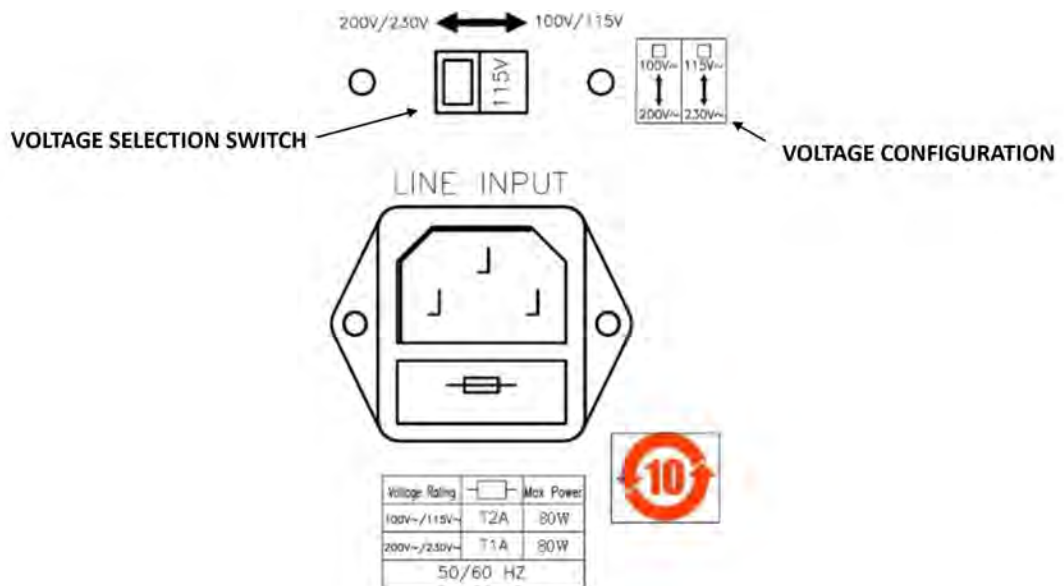

Figure 5-2: AC Input Voltage Selection
2. Refer the drawing on the rear panel of 5D Series load in Figure 5-2, set the switches to the proper voltage as indicated below.